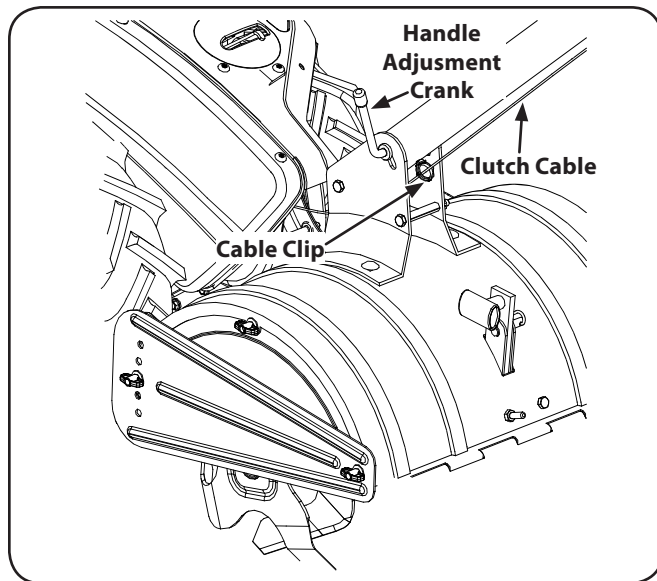

Figure 3-7
1. Route the clutch cable underneath the handle and through the cable clip. Be careful not to bend or kink the cable. See Fig. 3-7.